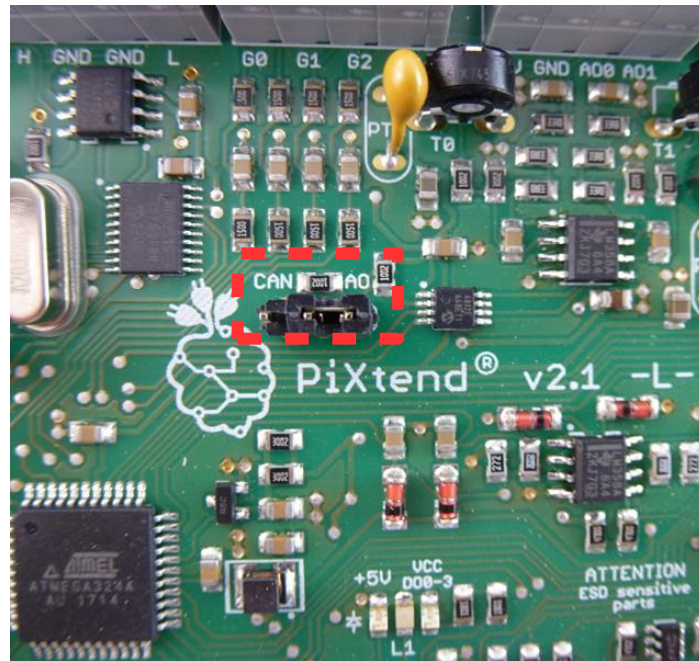

Figure 86: Jumper for switching between AO and CAN
The CAN controller is connected to the Raspberry Pi via SPI. Since the analog outputs (AO) and the CAN controller share an SPI-chip-select (CS1), you must first switch to the CAN controller. To do this, the jumper (figure 86) is set to the "CAN" position.